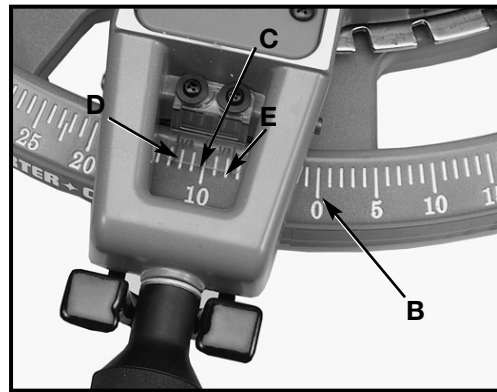

Fig. 13
3. The center line, (C) Fig. 13, on the cursor indicates the actual angle of cut. Each scale line (B) represents 1°. In effect, when the center line (C) is moved from one line to the next on the scale, the angle of the cut is changed by 1°.
4. The pointer is provided with two additional lines (D) and (E), Fig. 13. This allows movement of the control arm exactly 1/2°. For example, assume the center line (C) is pointing to the 10° mark on the scale, as indicated, and the angle of cut is 1/2° to the right. Move the control arm until the right line (E) lines up with the next line on the scale. The angle of cut will then be changed 1/2° to the right. If you change the angle of cut 1/2° to the left, use the left line (D) in the same manner.